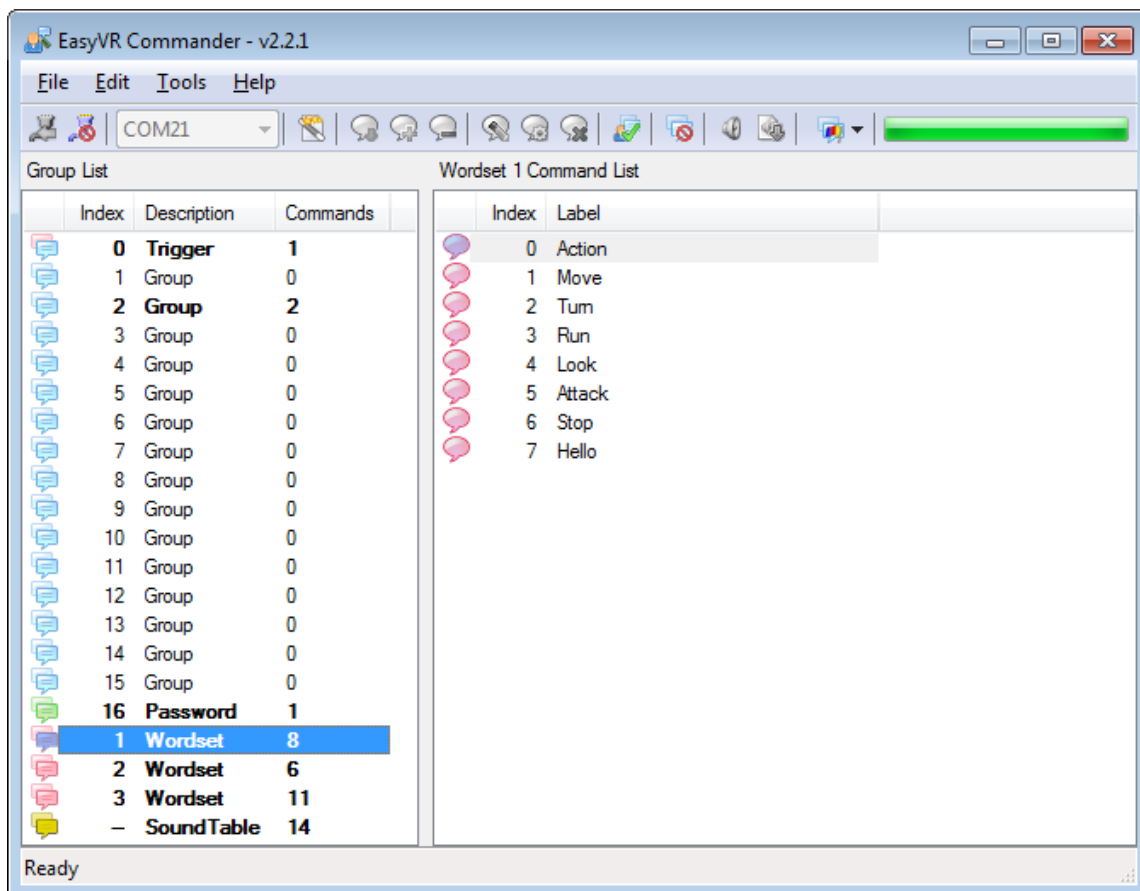
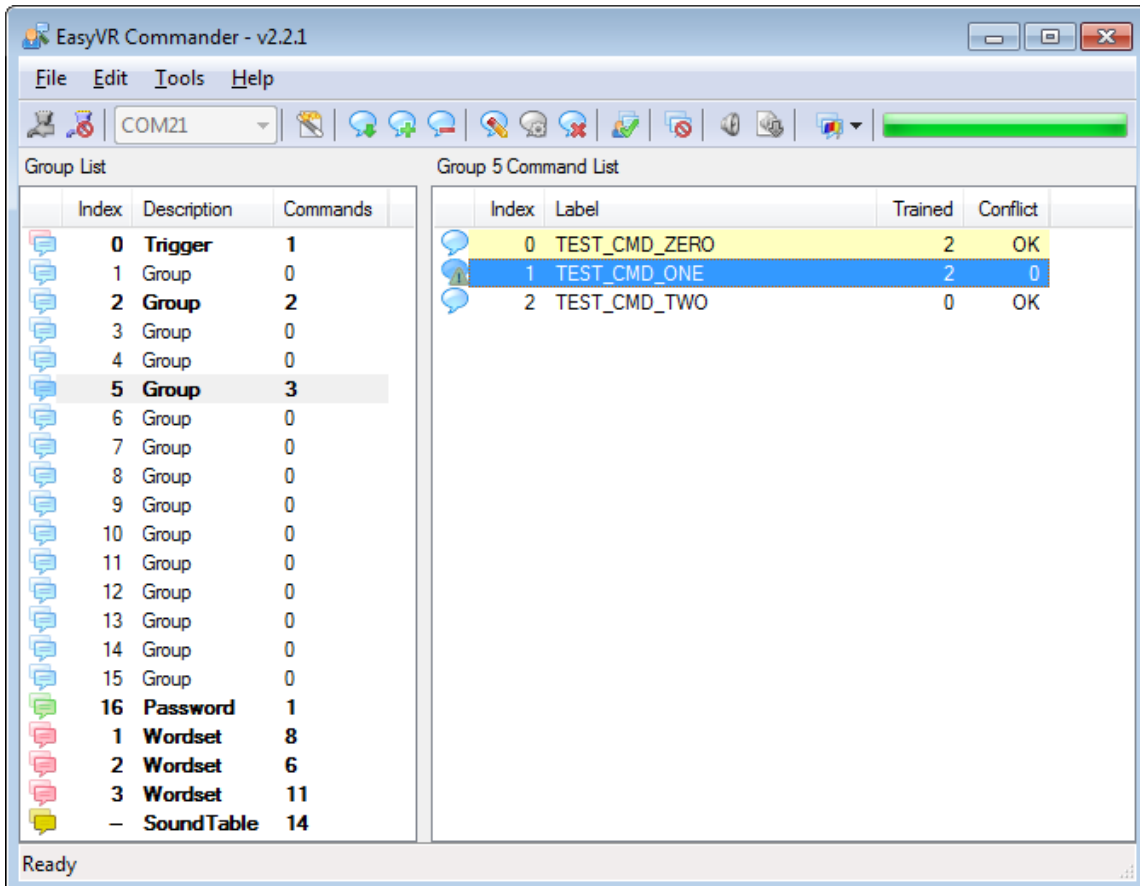

Figure 2 – Main application window
Figure 5 – Conflicting commands
There are four kinds of commands in the software (see Figure 2 and Figure 5):
- **Password** - a special group for "vocal passwords" (up to five), using Speaker Verification (SV) technology
- **Wordset** - built-in set of SI commands (for instance in Figure 2 above, the Wordset 1 is selected)
The software will also alert if a command is too similar to an existing one by specifying the index of the conflicting command in the "Conflict" column. For example, in the following Figure 5 the command